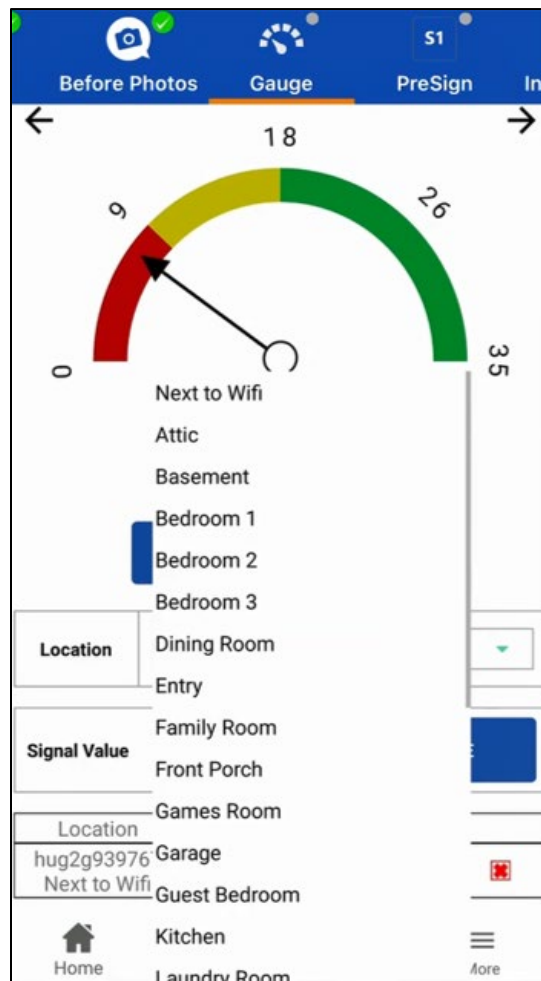

Figure 46: Choosing a location on the Gauge step
1. Select an area of the house from the *Location* drop-down (Figure 46). OASIS has several locations from which to choose, but you can also create your own location by selecting **Other** and typing the name of the location in the field that appears.